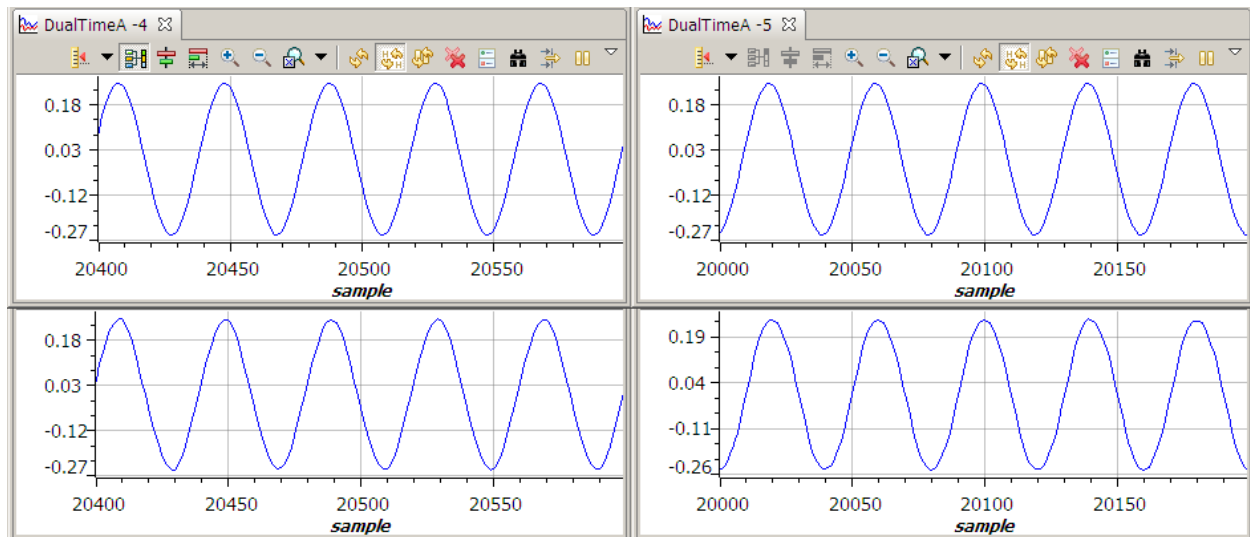

Figure 10 Build Level 3 graphs of commanded and regulated motor currents
- Check the graph windows with the continuous refresh feature. Figure 10 shows the graphs for this build level. The top two graphs show the commanded cos and sin current waveforms. The bottom two graphs show the corresponding current feedback waveforms. The feedback currents should track the commanded currents. If not, adjust its PID gains properly.